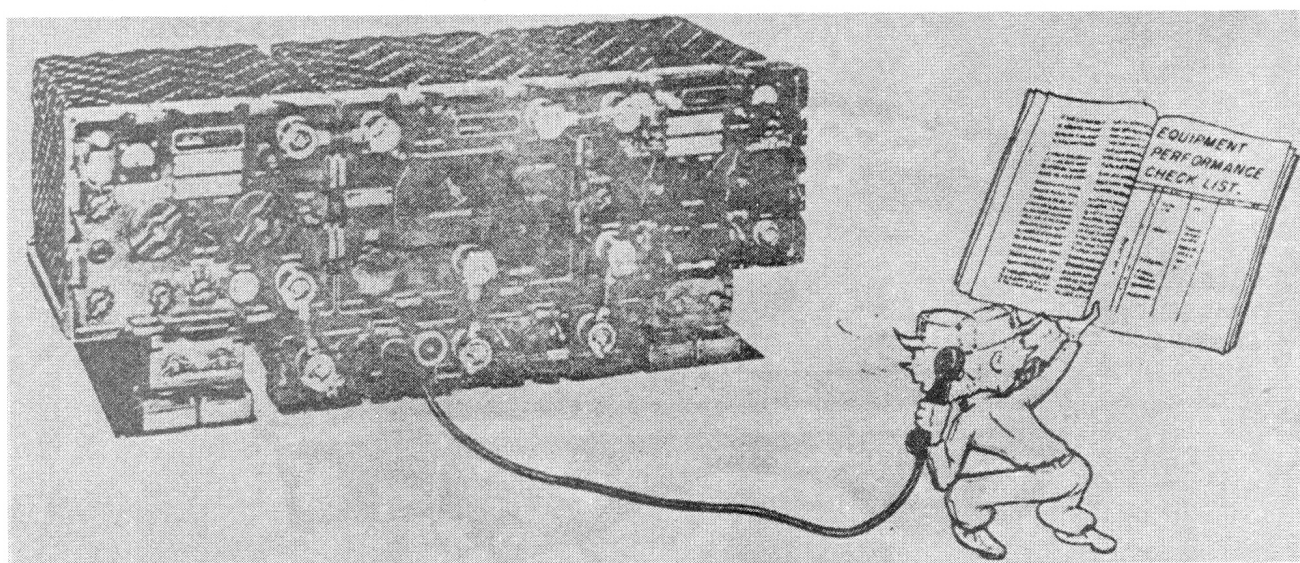

Figure 6. Using an equipment performance check list.
c. The TM used for Radio Set AN/GRC-10, for example, has an Equipment Performance Check List divided into columns designated Item, Action or condition, Normal indications, and Component to be checked. Part of the check list is shown in figure 6.
(1) Item. This column gives the item to check and the order in which to make the checks.
(2) Action or condition. This column specifies how to set the operating controls and switches. In some cases it